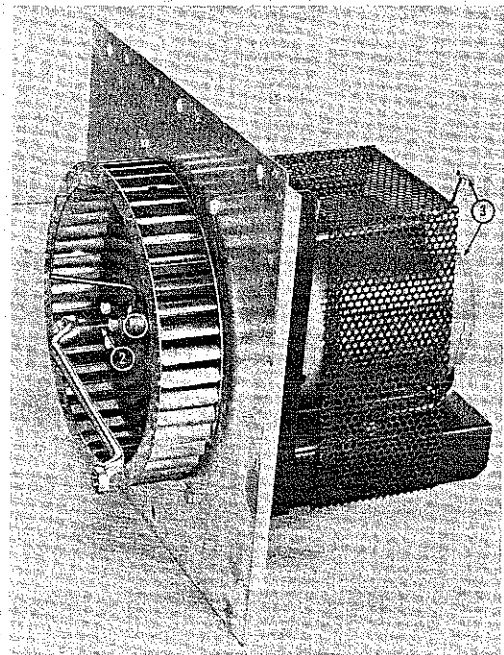

FIG. 6
3. Loosen the two socket head set screws on the wheel hub. (Figure 6, No. 1)
4. Screw 3/8-16 bolt into threaded disc on front of blower wheel hub. (Figure 6, No. 2)
4. Tighten both Allen set screws (Figure 6, No. 1).
On oven installations which are accessible from the back, oil motor yearly at oil caps, (Figure 6, No. 3). On installations which are not accessible from the back, remove motor as in (g) and oil. **CAUTION: Do not over oil.**